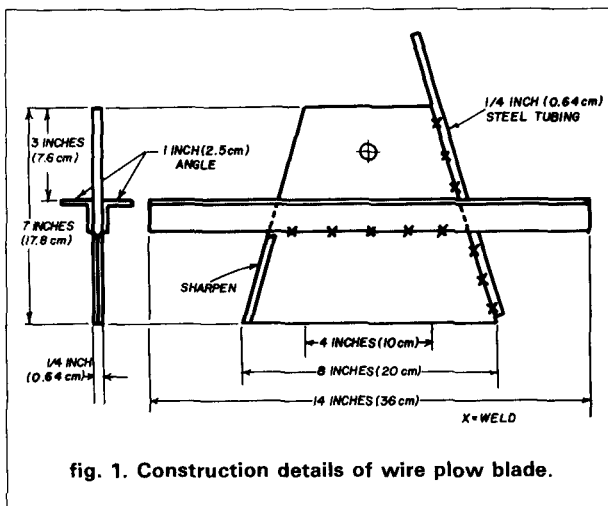
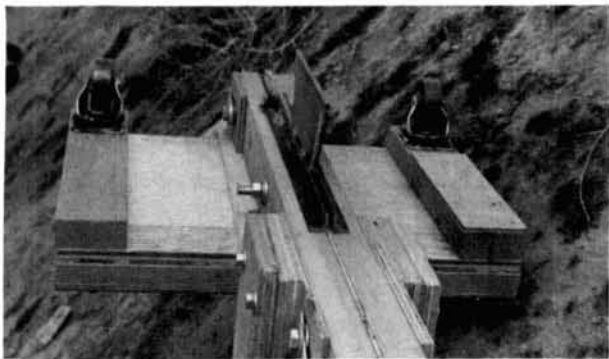

fig. 1. Construction details of wire plow blade.
fig. 2. Bottom view shows blade, tack-welded to angle iron screwed into position. Wire guide tube is welded to trailing edge of blade (foreground).
The blade, figs. 1 and 2, was cut from 1/4-inch (6.4 mm) sheet steel by a local blacksmith for \$10. I drilled the holes for fastening it to the frame and sharpened the leading edge on a bench grinder. For the wire guide, I bought a length of 1/4-inch (6.4 mm) steel brake line from an auto supply store. A friend with a welding outfit tack-welded it to the trailing edge of the blade (fig. 2).
**Side Lobes.** It wasn't that many years ago that side lobes on common Yagi type antennas were only 10 dB down from the main lobe. A typical "E" plane (azimuth) pattern on a widely used 144, 432, and 1296 MHz Yagi antenna is shown in fig. 1.8,9,10 Unfortunately, the presence of side lobes on an antenna pattern is almost a fact of life. The higher the gain of an antenna, the more likely you are to have a greater number of lobes. *What is really important is how far down these lobes are with respect to the main beam, because they represent additional signal and noise pickup as well as lower gain.*
Fortunately the NBS Yagi designs7 (an NBS 4.2λ Yagi's E plane pattern is shown in fig. 2) and other more modern techniques,11 sometimes involving computers,12 have improved design parameters, especially on Yagi antennas. Suffice it to say that it is desirable for serious work to have side lobes down at least 13 to 15 dB from
fig. 1. "E" plane plot of W2NLY/W6QKI 13-element 144 MHz Yagi. (See text and references 8, 9, and 10.) Note that beamwidth in "E" plane is approximately 29.5 degrees, and that the first side lobes are down only -10 dB. "H" plane beamwidth is the same (plotted on ARRL antenna radiation pattern paper.)
fig. 2. "E" plane plot of NBS 4.2λ 15-element Yagi adapted from reference 7. Note that the beamwidth is 26 degrees and "H" plane, not shown, is 29 degrees. First side lobes are down approximately -18 dB. (Plotted on ARRL antenna radiation pattern paper.)